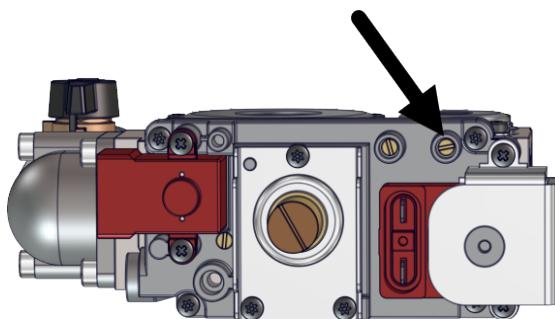

Figure 45 Location of inlet gas pressure test port
1. Shut off the gas supply. You will be measuring the inlet gas supply from the test port (see Figure 45 ). Do not perform a test from the manifold gas pressure test port.